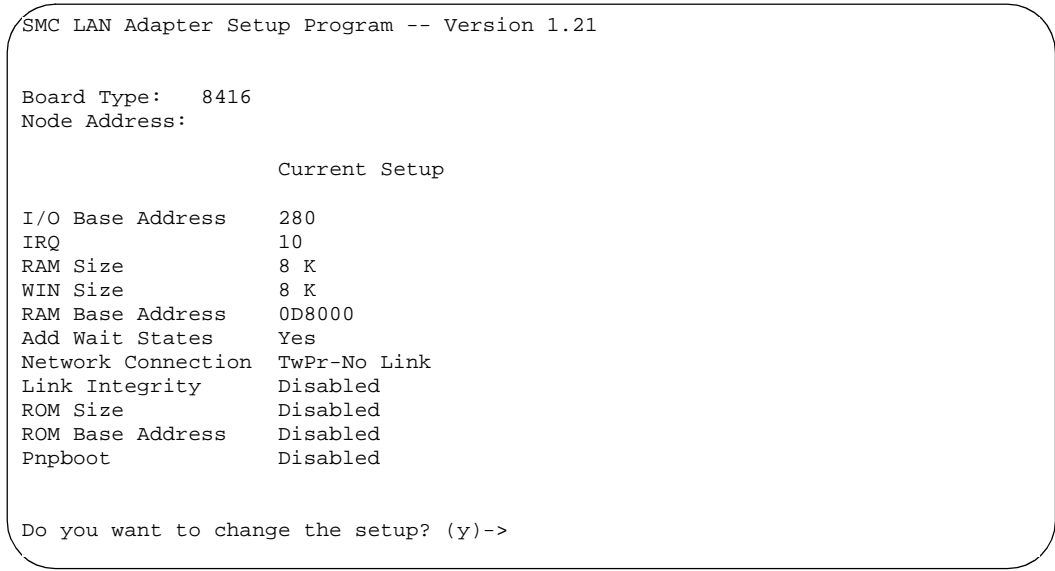

Figure 5-9. SMC LAN Adapter Setup Screen
The system displays the SMC LAN Adapter Setup screen (Figure 5-9).
- 2. Make sure your settings match those shown in Figure 5-9.